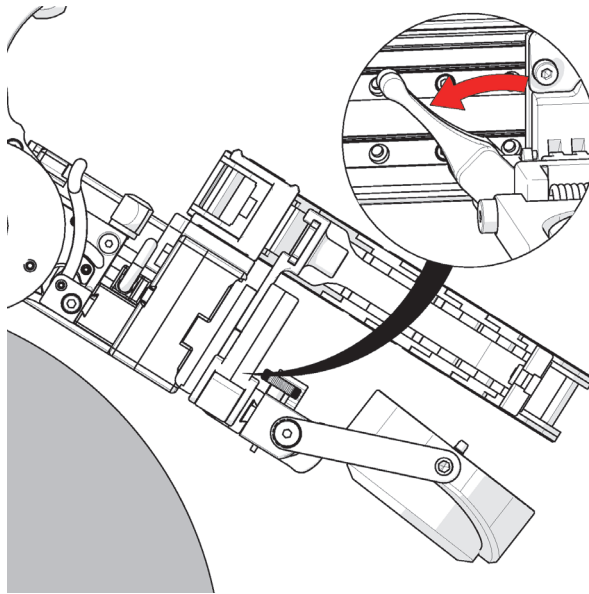

Figure 2-96 Adjust raster arm pivot nose
9. Release the raster arm pivot nose latch (see Figure 2-96 on page 119).